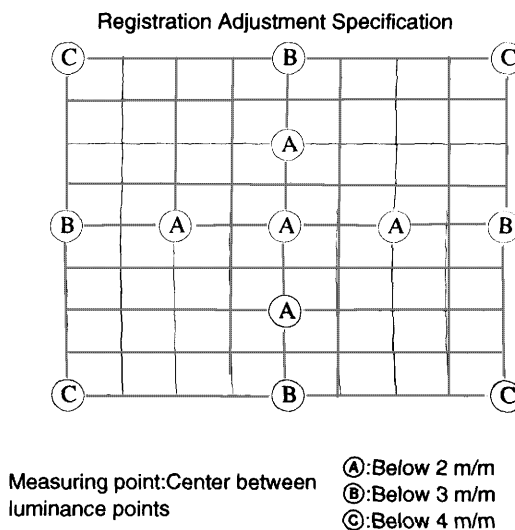

Fig. 9
- (2) Press the REGISTRATION CENT key and ADJ G key, and set the GREEN adjustment mode.
- (3) Adjust the vertical and horizontal lines to the center line of the screen using the ◀, ▶, ▲ and ▼ arrow keys.
- (4) Press the REGISTRATION SIZE key, and adjust the outer circumference of the cross-hair to the approximately 30 m/m position inside the screen using the ◀, ▶, ▲ and ▼ arrow keys.
- (5) Set the modes LIN, SKEW, BOW, KEY, KEY BALANCE, PIN, PIN BALANCE, ZONE (For ZONE of the 21 blocks, adjust only the No.2 to No.9 blocks.), and adjust to the respective specified values using the arrow keys. (See Fig. 9.)